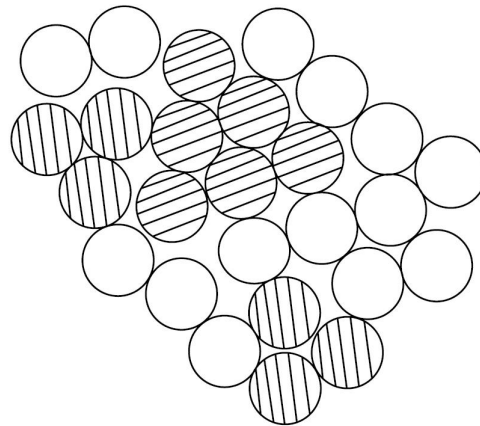

Figure 1 A two-dimensional representation of an instantaneous picture of the liquid structure. Many close-packed crystal-like clusters (shaded) are present.
2. To understand how it is possible for a stable solid nucleus to form homogeneously from the liquid it is first necessary to examine the atomic structure of the liquid phase. From dilatometric measurements it is known that at the melting point the liquid phase has a volume 2–4% greater than the solid. Therefore, there is a great deal more freedom of movement of atoms in the liquid and when averaged over a period of time the atom positions appear completely random. However, an instantaneous picture of the liquid would reveal the presence of many small close-packed clusters of atoms which are temporarily in the same crystalline array as in the solid, as shown in Fig. 1 below. On average the number of spherical clusters of radius r is given by